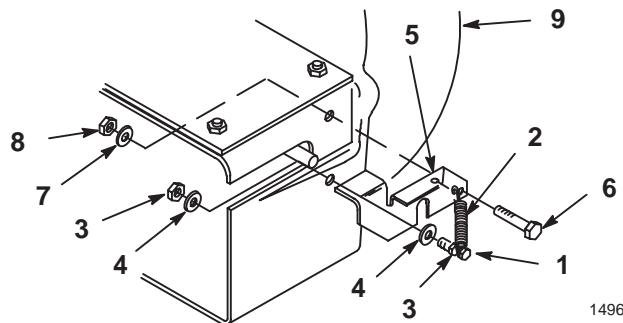

Figure 5
10. Install one end of tension spring and nut onto (#10 x 3/4") screw. Thread nut on within 1/8" from end of screw so spring rotates freely (Fig. 5).
11. Slide washer onto screw and insert through blower housing. Secure with second washer and nut (Fig. 5).
12. Select appropriate latch (42" short, 48" long) Hook spring into latch and mount to blower housing with (1 $\frac{1}{4}$ " x 3 $\frac{1}{4}$ ") bolt, washer and lock nut (Fig. 5). Check that latch pivots freely.